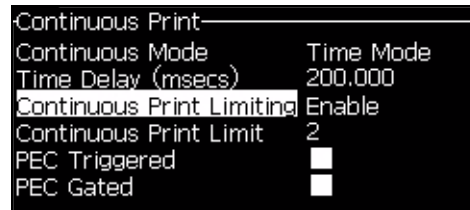

Figure 4-25: Continuous Print Dialog Box
- 1 Select *Continuous Print* from the *Print Menu*. The *Continuous Print* dialog box appears (Figure 4-25).